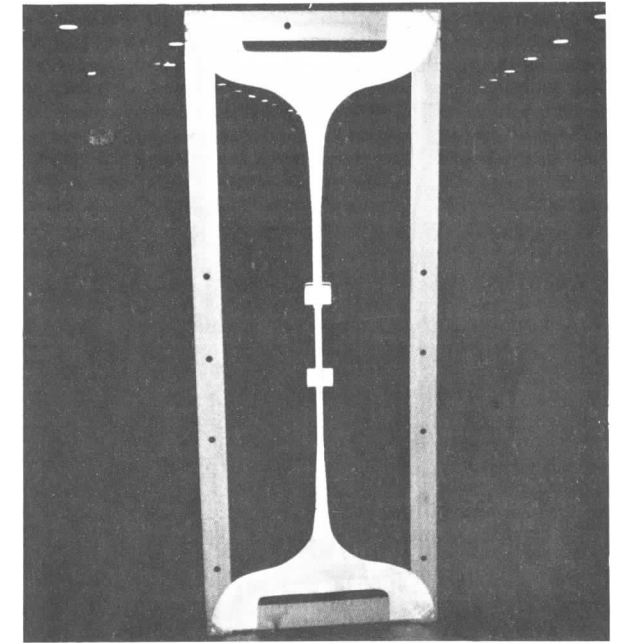

Fig. 15
4. Checking toe-in requires a special toe gauge such as the model TG-68. (See Fig. 15)